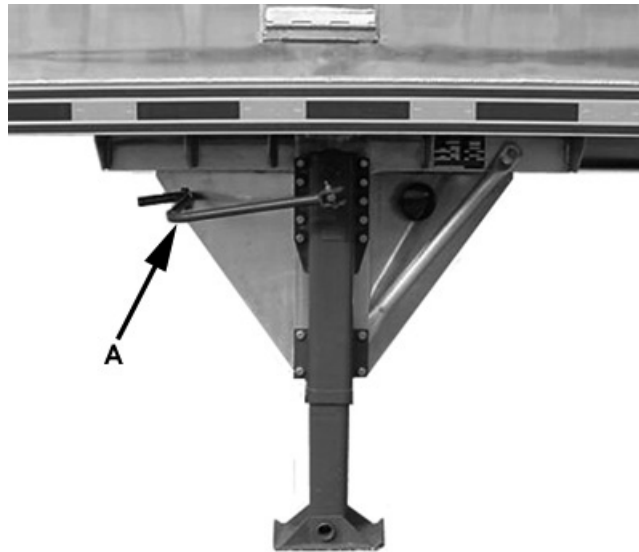

Figure 3-8 - Two Speed Landing Gear
14. Raise the landing gear. MAC Trailer uses a two speed landing gear from several different manufacturers. High speed may be “in” on some models and “out” on others. Engage the crank handle (A) to the shaft and turn to retract the landing gear. Return the two speed landing gear crank handle to the storage position. See figure 3-8.